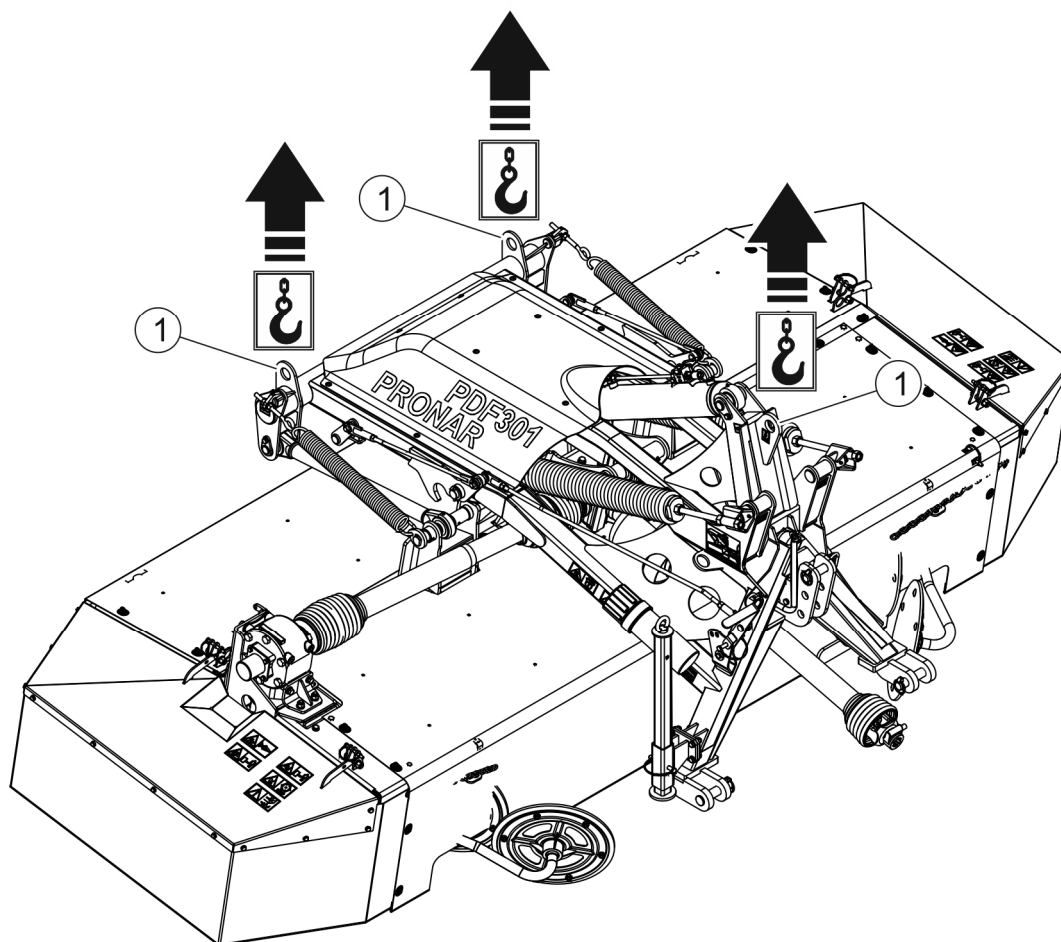

FIGURE 1.2 Transport lugs.
The mower should be attached to lifting equipment in places designed for this purpose (FIGURE 1.2), i.e. to transport lugs (1). When lifting the mower take particular care due to the possibility of tipping over the machine and the risk of injuries from protruding parts.